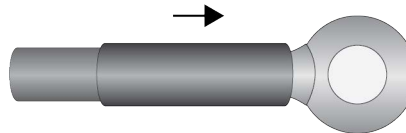

Figure 34. Sliding the Heat-Shrink Tube Over the Ring Terminal Lug
5. Slide the heat-shrink tube over the shaft of the ring terminal lug. Refer to Figure 34.